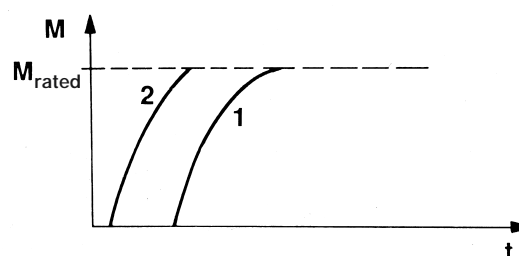

Fig. 4
When switching off the coil voltage, the magnetic field effects that the coil current conducts further via the rectifier diodes and only drops very slowly. The magnetic field reduces itself slowly and effects that the brake torque slowly rises (Fig. 4; curve 1).
1. Recovery diode parallel to the coil — yields the same switching times as the AC voltage switching (Fig. 4, curve 1).
2. Adapted varistor parallel to the coil — simple adaption, good protection, fast reducing of the magnetic field with defined switching-off voltage (Fig. 4, curve 2).